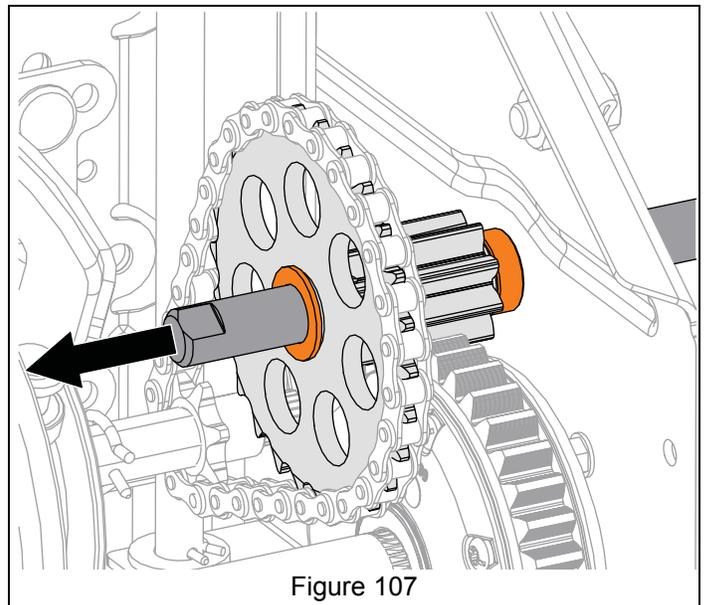

Figure 107
1. Install flange bushings into pinion gear. See Figure 107.